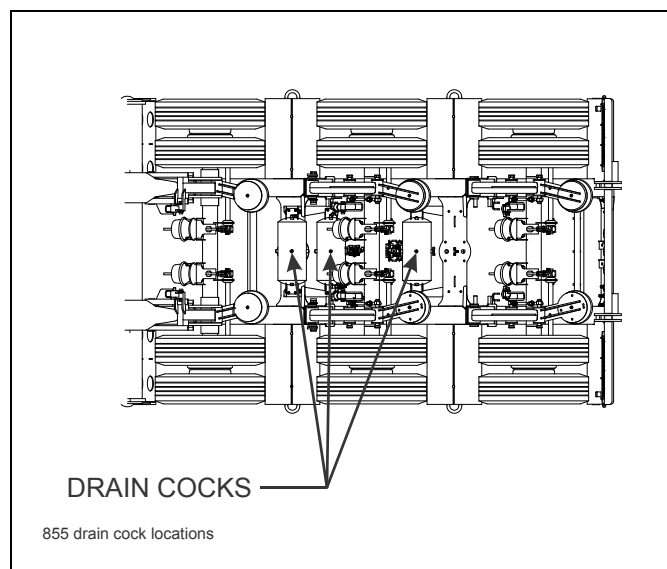

Figure 4-10: Drain Cock Locations
4. Drain air reservoir daily. A drain cock on the bottom of each air reservoir vents the tank to drain collected water and oil. If held open, air pressure in the tanks is relieved, causing the emergency or parking brakes to be applied (**See Figure 4-10.**)